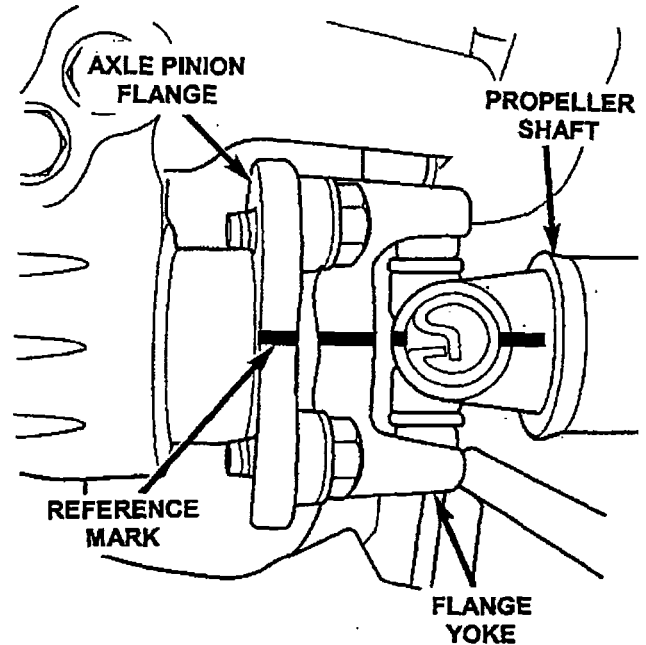

Figure 3 – Rear Propeller Shaft Shown
5. Apply reference marks and remove the rear propeller shaft from the vehicle (Figure 3).
6. On vehicles equipped with four wheel drive, apply reference marks and disconnect the front propeller shaft from the transfer case at the companion flange (Figure 3).